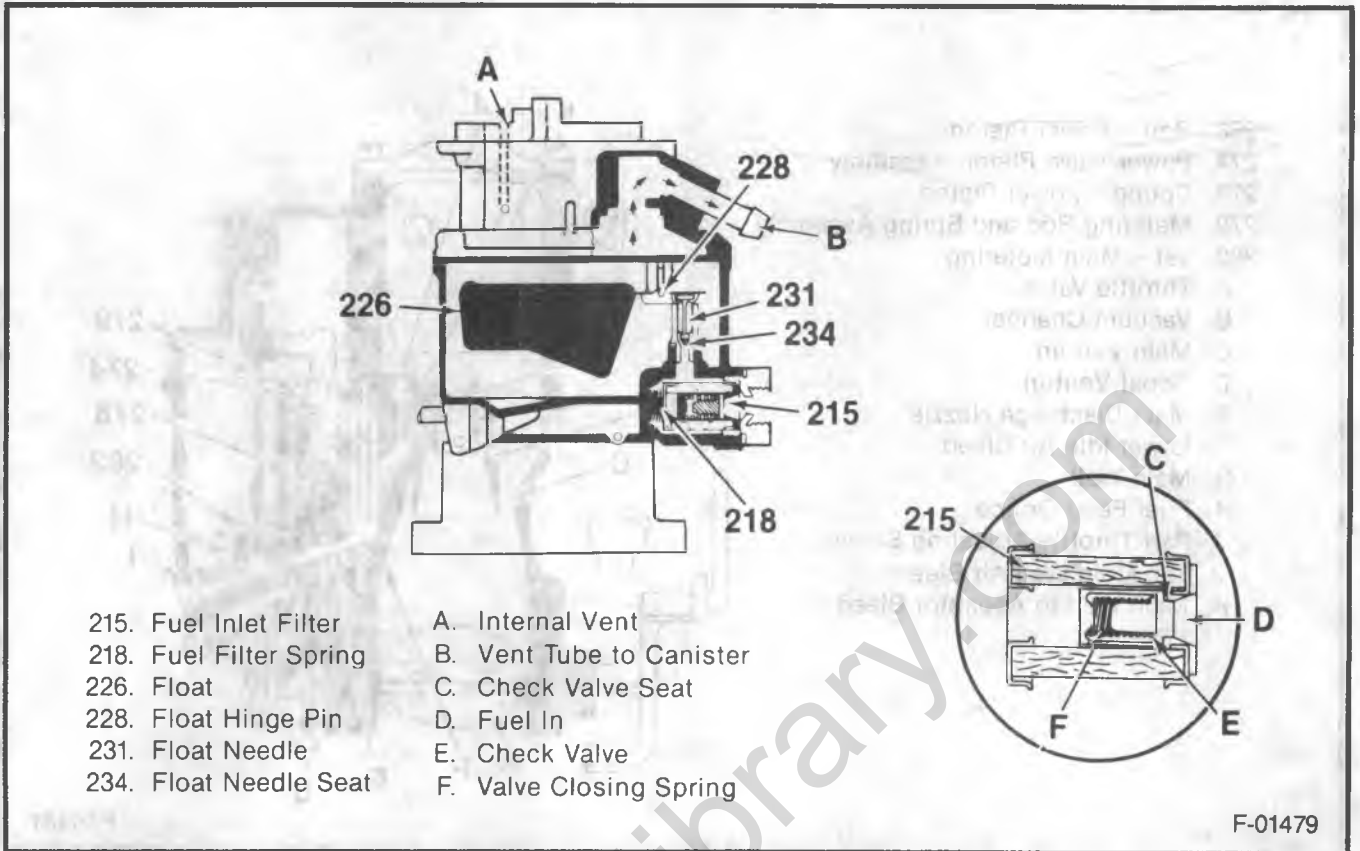

Figure 3 - Float System
Model 1MEF has three major assemblies: an air horn, a float bowl and a throttle body. It has the six operating systems shown in Figures 3 through 8:
- Figure 3 Float